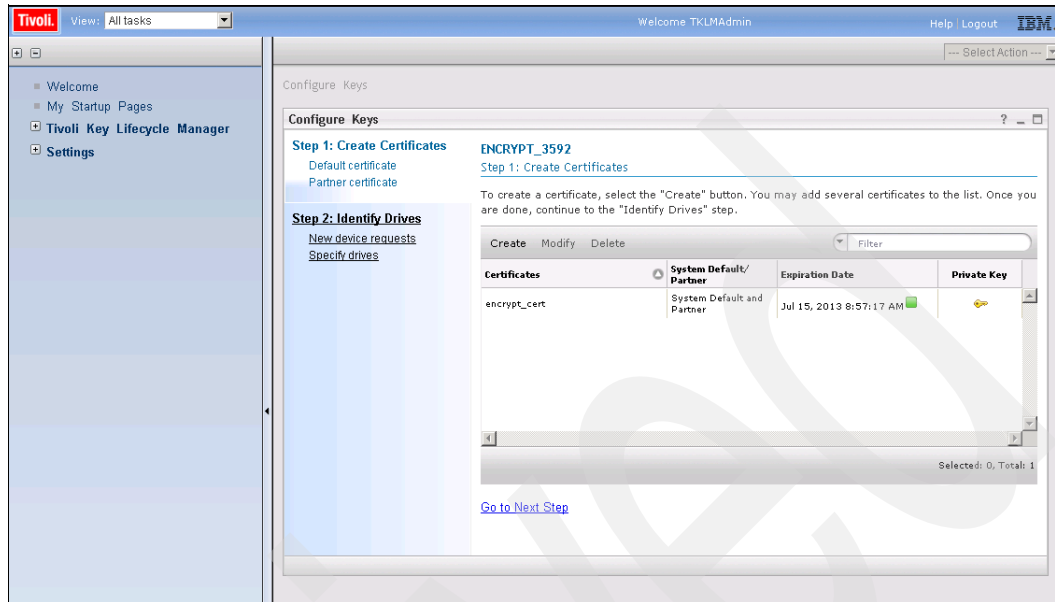

Figure 9-58 Successful self-signed security certificate completion
- If the self-signed security certificate was successfully created, it is included in the certificate list, as shown in Figure 9-58.